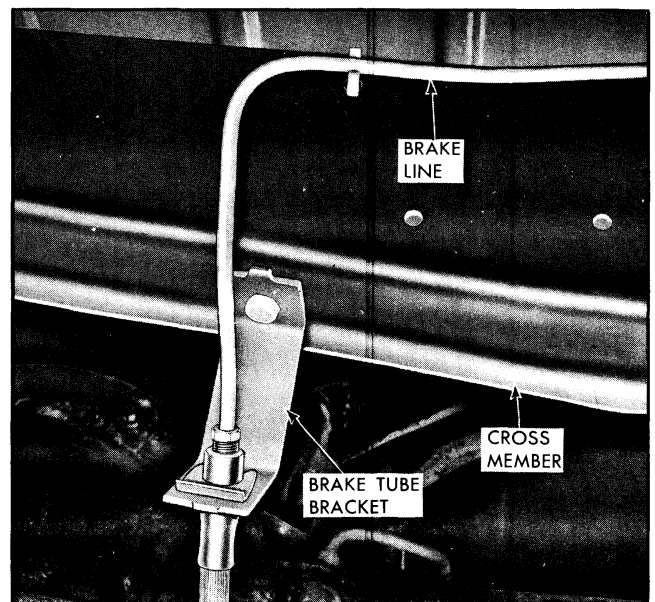

Fig. 3-30 Brake Tube Bracket and Line
4. Remove brake tube bracket and line from cross member (Fig. 3-30).